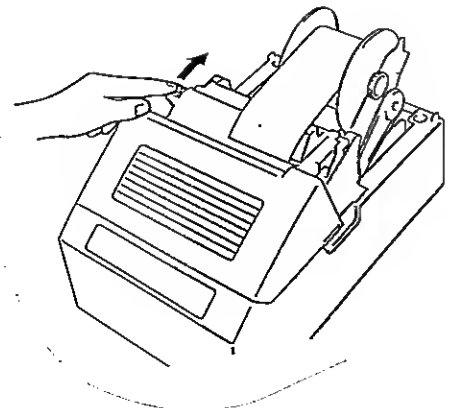

Fig. 3
- 4) Lower the green lever. (Fig. 3)